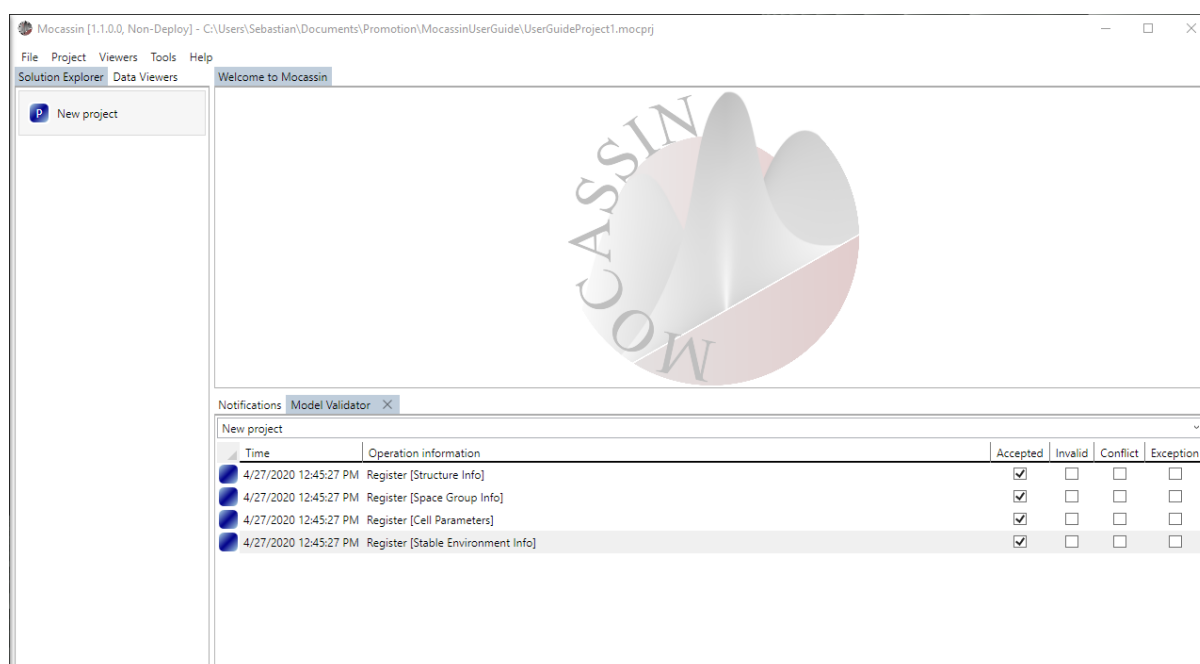

Figure 5: A model validator tab targeting the newly created project.
- iii. As shown in Figure 5, four valid reports should appear